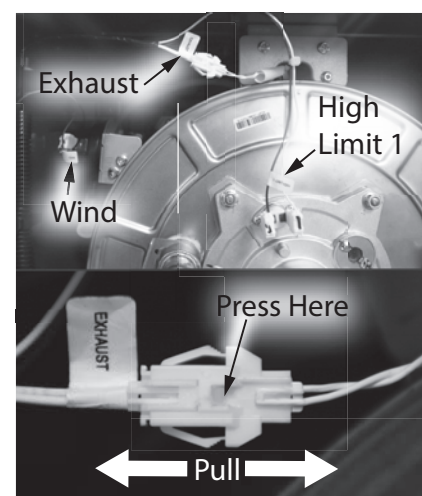

Figure 45 - First wiring harness bundle location
**4** Locate the outlet thermistor wiring harness labeled "EXHAUST" and disconnect it. See Figure 45.
**5** Locate the burner hi-limit switch wire leads labeled "HI LIMIT 1" and disconnect them. See Figure 45.
**6** Locate the pressure switch wire leads labeled "WIND" and disconnect them. See Figure 45.